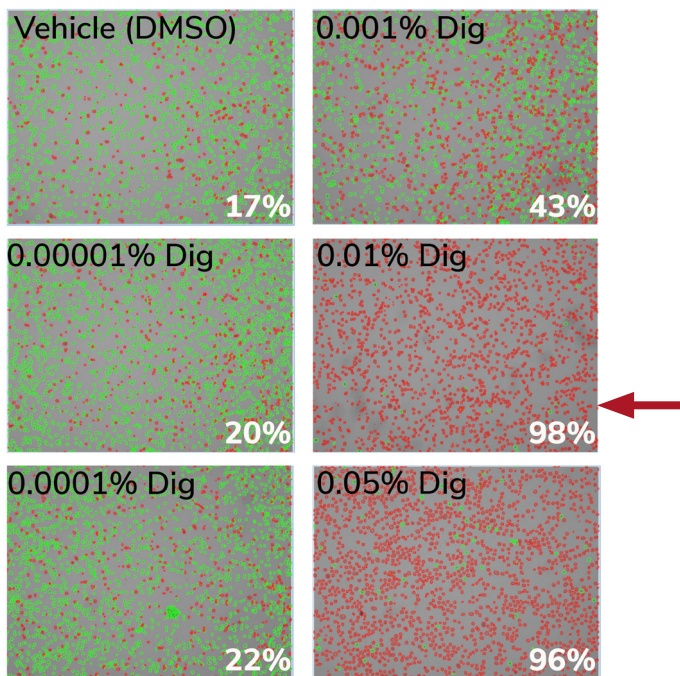

FIGURE 8
- In Figure 8, 0.01% Digitonin is the minimum concentration necessary to permeabilize >95% of total K562 cultured cells (red arrow).